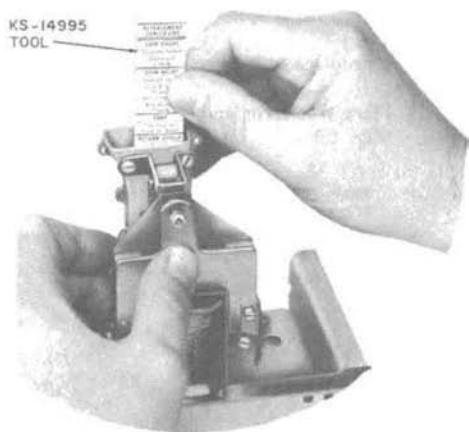

Fig. 41—Trap and Vane Release Test
- (1) Manually close coin relay armature to its full extent of travel.
- (2) Insert KS-14995, L3 tool into hopper to operate trap to the limit of its travel (Fig. 41).
- (3) Slowly withdraw tool.